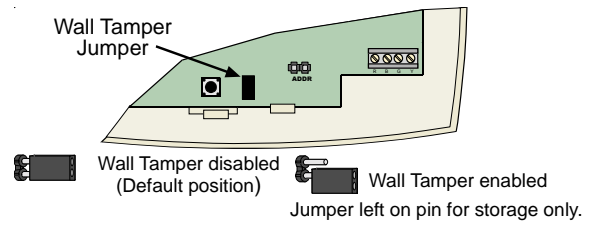

Figure 3: Wall Tamper Jumper
- Move the wall tamper jumper as shown in *Figure 3*.